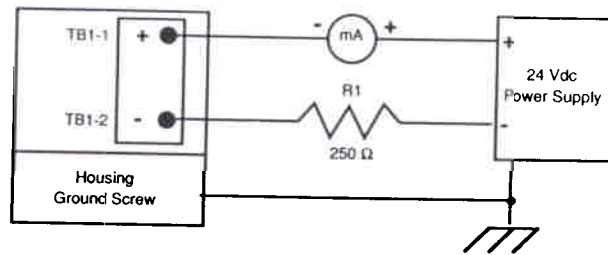

Figure 10.2
6. Connect the milliammeter as indicated in Figure 10.2. R1 (250 Ω resistor) is not required, but is recommended when the gauge is installed in an atmosphere with electrical interference.